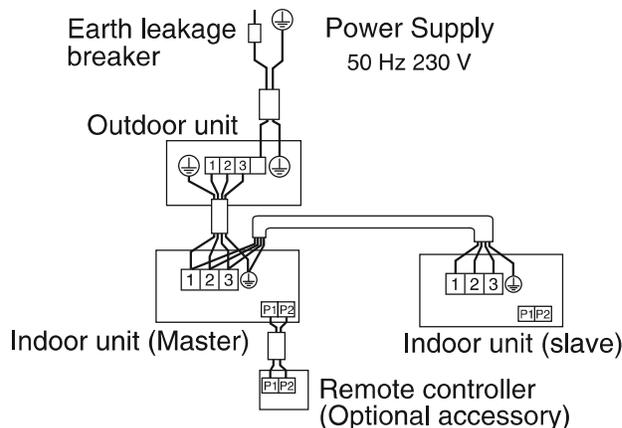

Fig. 30
- **Simultaneous operation system:** 1 remote controller controls 2 indoor unit (2 indoor units operates equally). **(Refer to Fig.30)**
- (1) Remove the control box lid. (See “8. ELECTRIC WIRING WORK”.)
- (2) Cross-wire the terminal block for remote controller (P₁, P₂) inside the control box. (There is no polarity.) (Refer to Fig. 30 and Table 5)